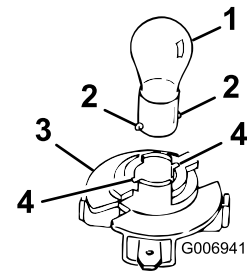

Figure 54
2. Insert the base into the holder (Figure 54).
4. Insert and rotate the bulb counterclockwise until it stops (approx. 1/4 turn), and remove the bulb from the bulb holder (Figure 54).